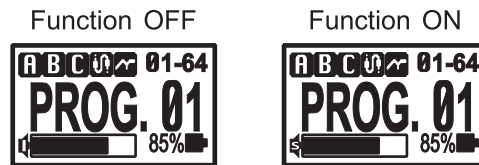

Fig. 22
- (1) Enable Auto Wake Up function and ACT sync, the transmitter screen shows Auto Wake Up icon, Fig. 22.